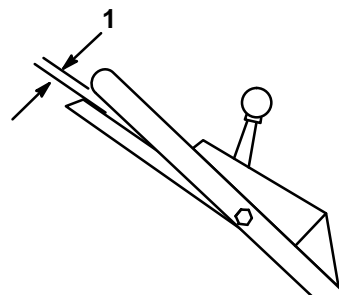

Figure 23
3. **CHECK ADJUSTMENT**—Slowly pull mower backward while control bar is gradually moved toward handle. Adjustment is correct when rear wheels stop turning and control bar is about one inch from handle (Fig. 23).